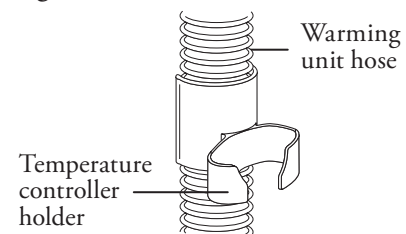

Figure 7. Controller holder.
1. Press the holder onto the warming unit hose so it is within the patient's reach (see Figure 7).